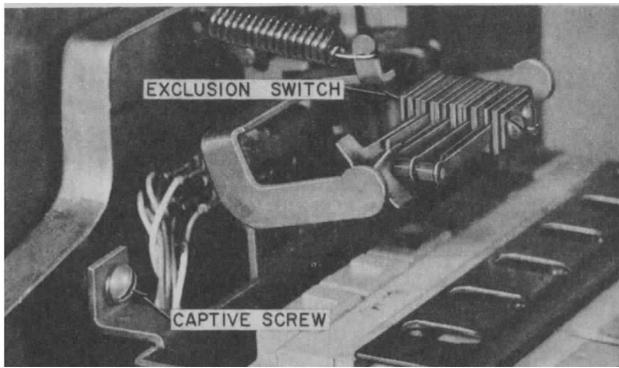

Fig. 12—Exclusion Switch Mounting and Hinged Chassis Mounting Screws
3.02 The telephone set should be mounted before installing the modular items. To expose the mounting holes, the hinged chassis assembly must be lowered by loosening the captive screws (Fig. 12) holding the top of the chassis. Where desired, the chassis assembly can be removed by springing the hinge brackets sufficiently to clear the pins. The base pan can be mounted directly
(1) With chassis in lowered position, fasten switch assembly to line switch bracket using screw provided in kit. Screw must be inserted in hole from rear of bracket.
(2) Position switch assembly horizontally (Fig. 12) and fasten securely.